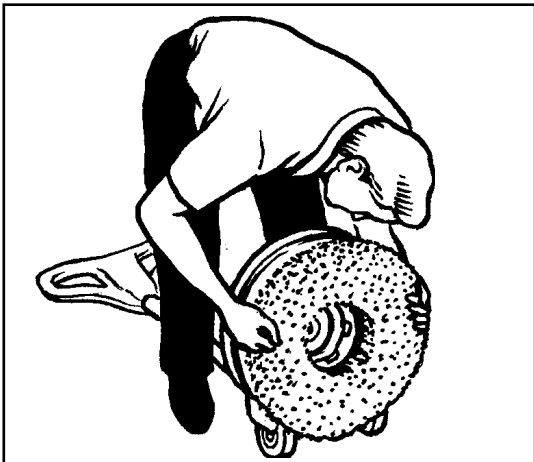

Figure 5
3. Tilt the machine backward until the handle is on the floor. See figure 5.
4. Put one foot on each side of the machine. See figure 5.